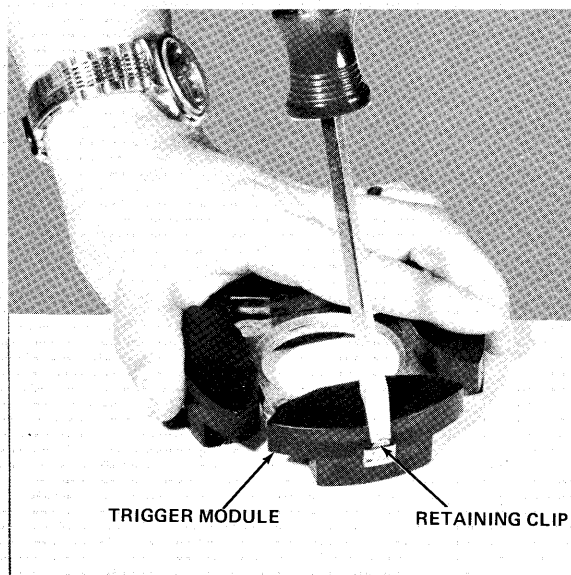
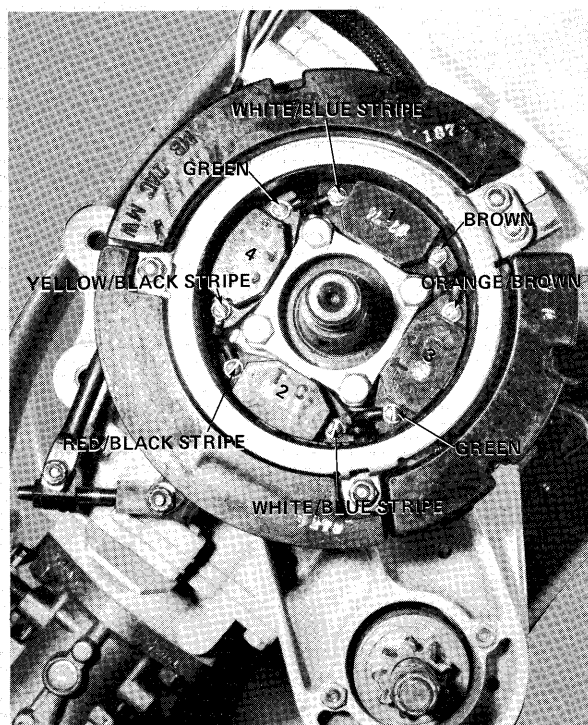

Figure 24 - Removing Trigger Module
Figure 25 - Connecting Leads to Trigger Modules
- E. Remove trigger module from mounting plate by bending metal clip down and sliding module from plate as shown in figure 24.
- A. Install trigger module on mounting plate terminals up and secure by bending metal clip down. Refer to figure 24.
- B. Place trigger assembly on bearing cage (8 terminals up), install four (4) screws and tighten securely.
- C. Install eight (8) screws, lockwashers and lead wires on trigger modules as shown in figure 25.